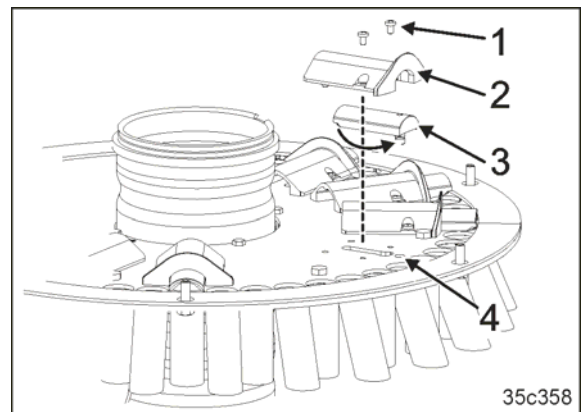

Fig. 213
10. Loosen the bolts (Fig. 213/1).
11. Remove the shutter tunnel (Fig. 213/2).
12. The shutter (Fig. 213/3) is inserted in the guide.
13. Turn the shutters around (Fig. 213/3) and push them into the drill hole (Fig. 213/4).
14. Screw the shutter tunnel (Fig. 213/2) onto the base plate.